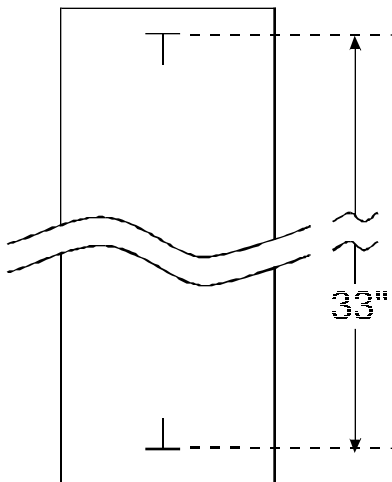

Figure 3-26. Paper Axis Test.
3. From the Calibration Menu, select "Paper Axis Test". This runs the paper axis test which prints out two "T" figures that are mirrored from each other and about 33" apart. See Figure 3-26.